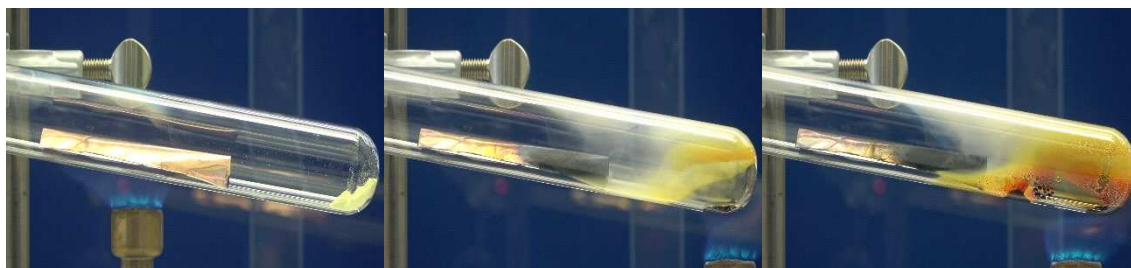

Fig. 4
4. Describe the experiment shown in Fig. 4.